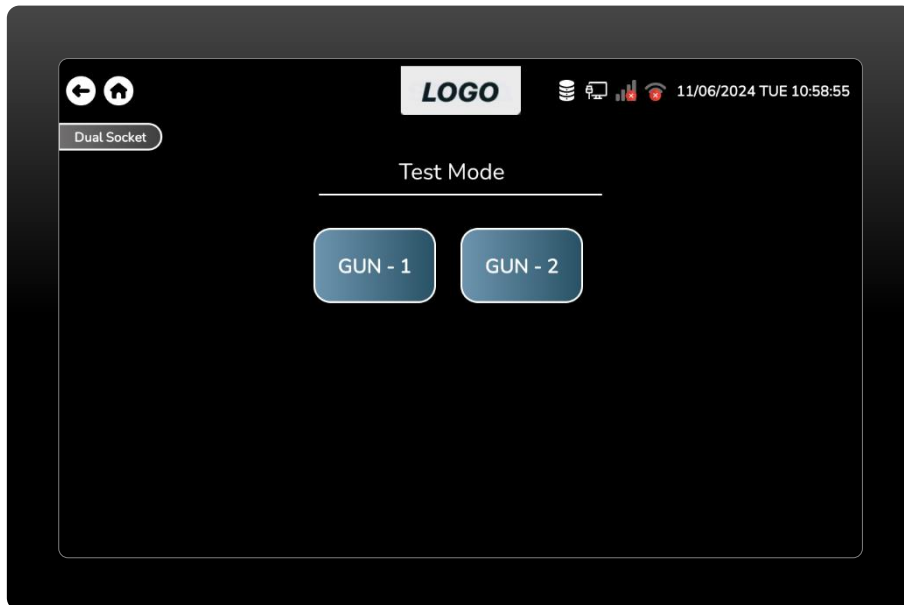

Figure 21 Test mode screen.
- This is the test mode screen, with two options for GUN 1 and 2. (Figure 21)